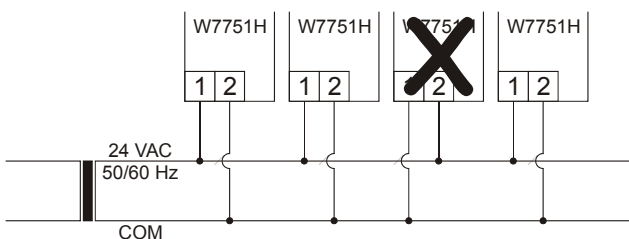

Fig. 13. Wiring multiple W7751 units (with transformer secondary connected to same input terminal numbers)
- 24 Vac power connections. Verify that multiple controllers powered by the same transformer are wired with the transformer secondary connected to the same input terminal numbers on each W7751. See Fig. 13. Controller configurations are not necessarily limited to three devices, but the total power draw including accessories cannot exceed 100 VA when powered by the same transformer. For power wiring recommendations, refer to Excel 10 W7751B,D,F,H,J Variable Air Volume Controller – Application Guide (Product Literature No.: 74-2949).